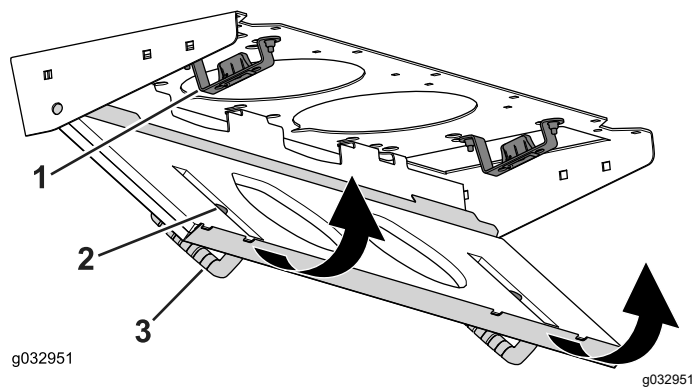

Figure 88
4. Rotate the filter screen around the tabs until the latch locks into the latch-mount assembly (Figure 88).